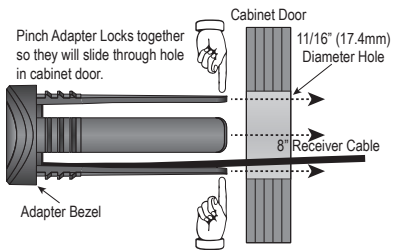

Figure 11 - Flush Mount Adapter - Install Adapter
4. Pinch the Adapter Locks together and carefully slide the adapter/receiver assembly through the hole until the adapter bezel is pressed against the front of the cabinet door. Be sure to align the thick sections of the bezel at 12 and 6 o'clock for best left to right off-axis performance. (It will look better that way as well.) **Figure 11**